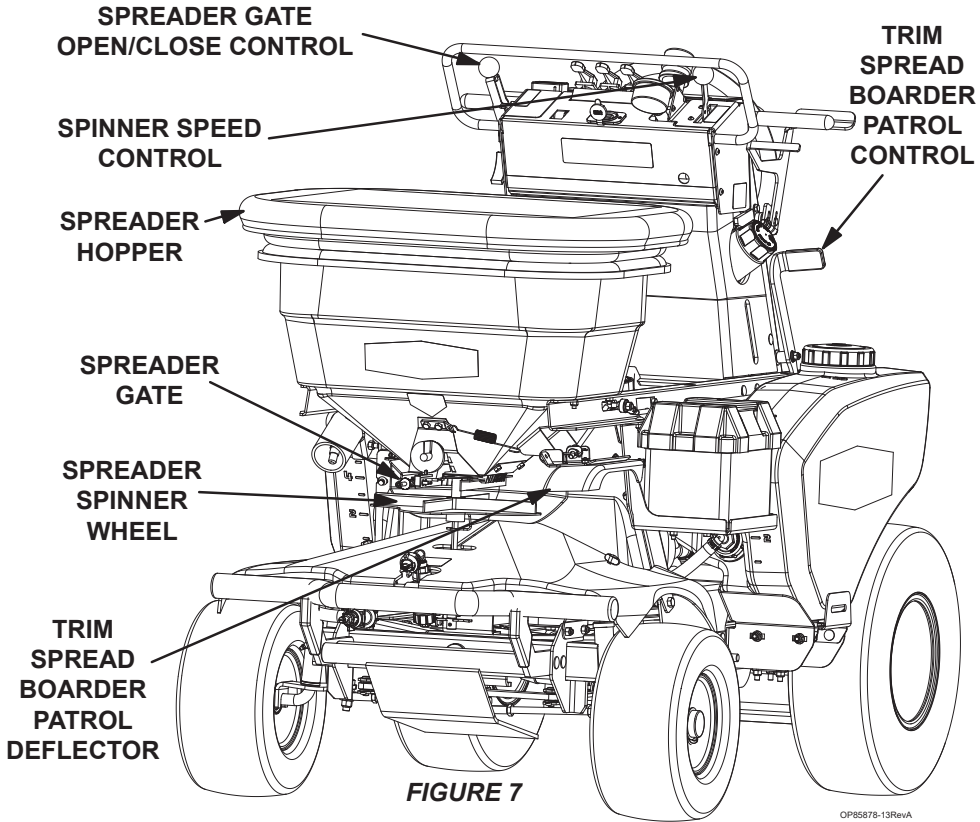

FIGURE 7
1. **SPREADER HOPPER (See Figure 7)** - The spreader hopper size is 2.9 cubic feet and holds 175 pounds (0.08 Cubic Meter/ 79.4 Kg.) of material.
**6. SPINNER SPEED CONTROL (See Figure 7 and 9)** - The Spinner Speed Control lever allows the operator to speed up or slow down the spinner wheel to vary the spread pattern width. Push the Spinner Speed Control lever full ahead for full application width and pull back for the narrow or trim width. A slower spinner wheel speed results in a narrower spread width (about 7 foot wide) for use in narrow spots, trimming, and to avoid putting product where it is not wanted.